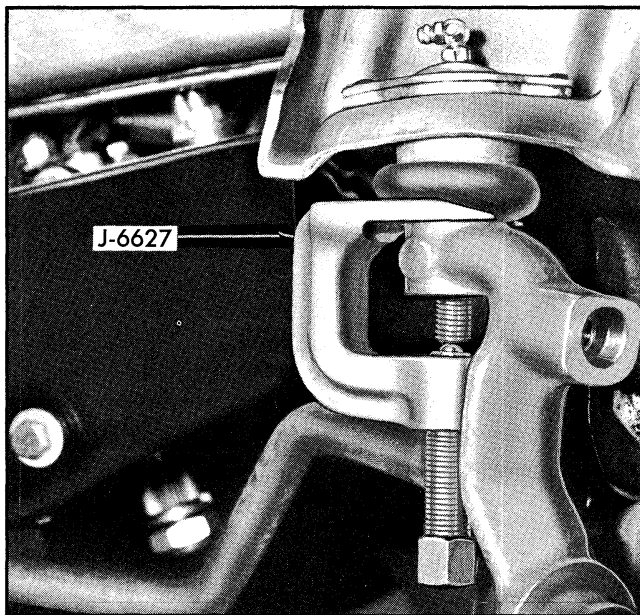

Fig. 3-13 Pressing Ball Stud from Steering Knuckle
7. Disconnect upper and lower ball stud from steering knuckle using tool J-6627 (Fig. 3-13) and remove brake drum and steering knuckle as an assembly.
3. Disconnect upper and lower ball stud from steering knuckle using tool J-6627 (Fig. 3-13) and remove brake drum and steering knuckle as an assembly.